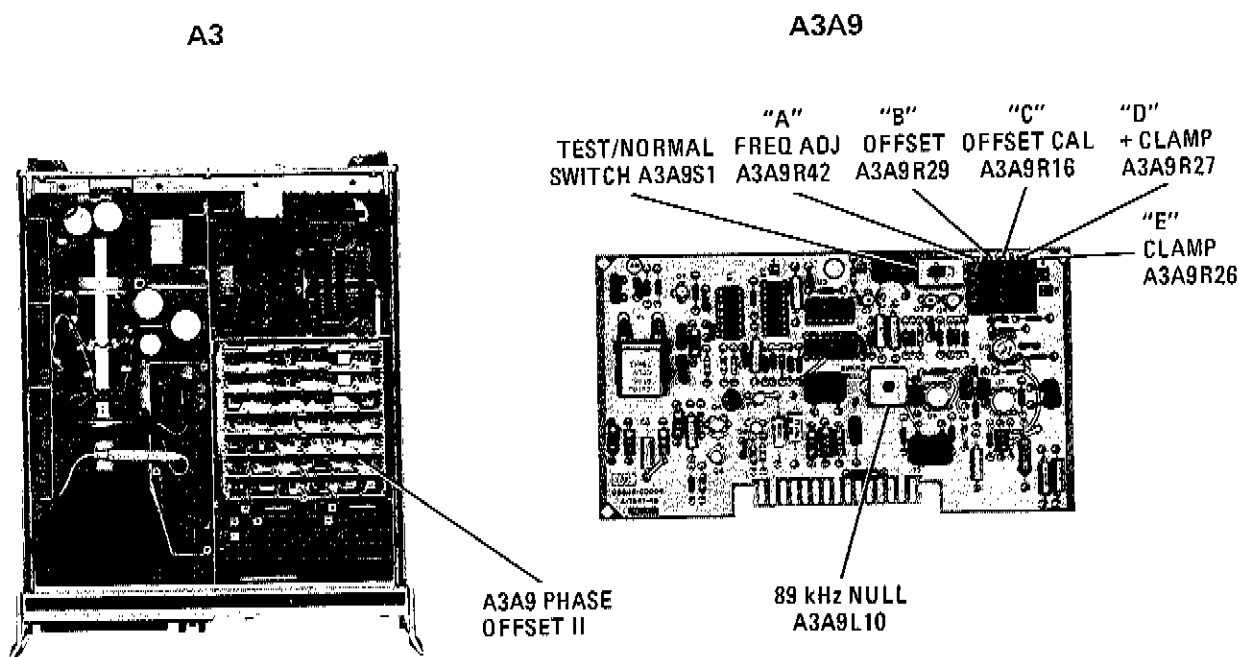

Figure A5-36. A3A9 Phase Offset II Adjustment Locations
- l. Set A3A9S1 TEST switch to TEST position (right). (See Figure A5-36).
- m. Connect external Frequency Counter to pin 15 of A3A9 connector. (Use a 10:1 oscilloscope probe to avoid loading circuit.) If the counter indicates  $893 \text{ kHz} \pm 3 \text{ kHz}$ , go to next step. Adjust "A" control A3A9R42 (Figure A5-36) for an output frequency of  $893 \text{ kHz} \pm 3 \text{ kHz}$ . Disconnect Frequency Counter.